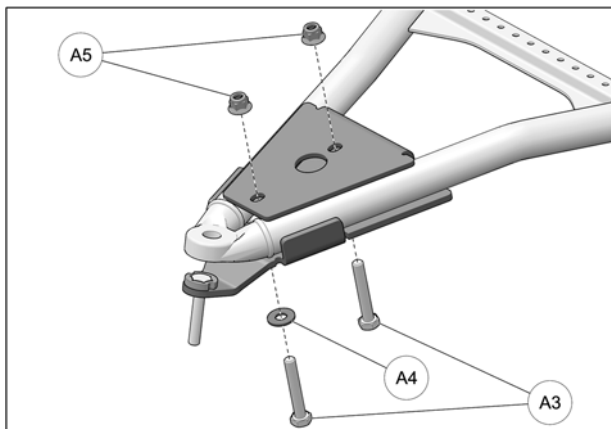

Fig. 27
10. Slip washer (A4) over front M10x65mm bolt (A3). Insert M10x65mm bolts (A3) through the bottom and secure the two parts together with nuts (A5) provided. Tighten assembly to 50 N•m [37 lb•ft] of torque. Refer to Fig. 27